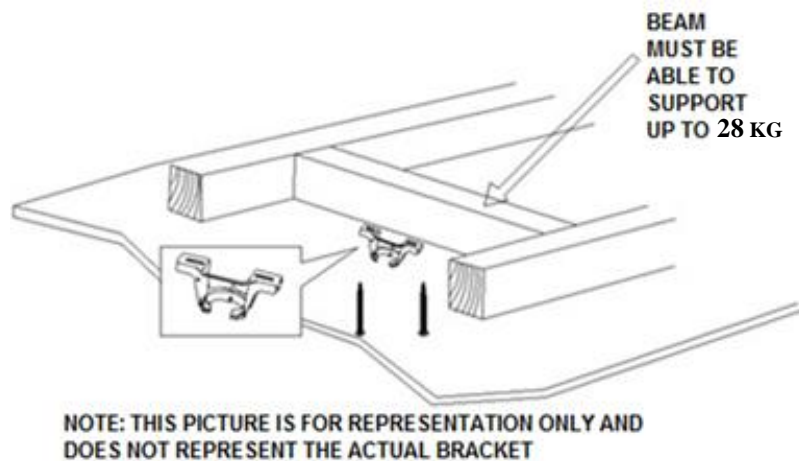

Fig. 2
- Install the hanging bracket to the ceiling joist or structure that is capable of carrying a load of at least 28kg, with two long screws provided. Ensure at least 30mm of the screw is threaded into the support. (Fig. 2)